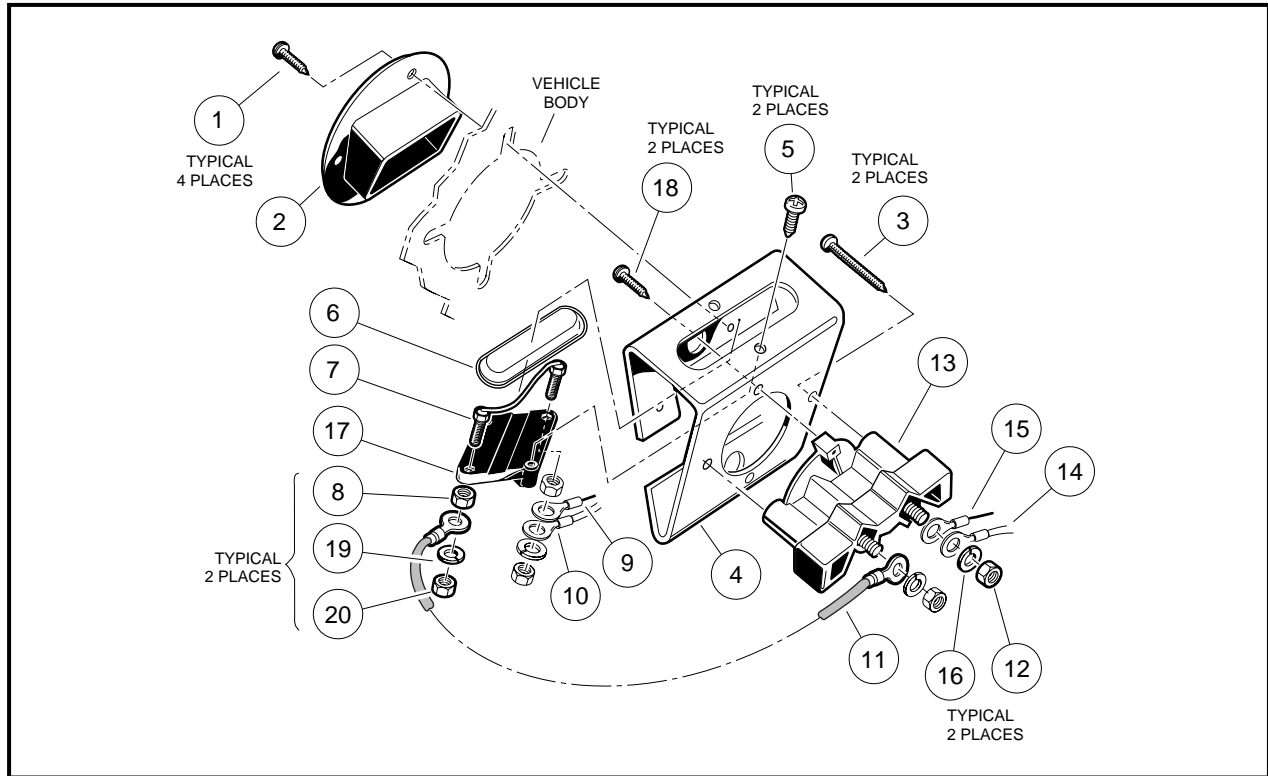

Figure 14-16 Receptacle
1. Disconnect the small black wire (15) and the white wire (14) (to the negative battery post) from the negative terminal of the receptacle (**Figure 14-16, Page 14-16**).
2. Disconnect the red wire (11) (to the fuse link) from the positive terminal of the receptacle and remove the four screws (1) from the bezel (2) (**Figure 14-16, Page 14-16**). See following **WARNING**.
3. Remove screws (3 and 18) attaching receptacle to the fuse link bracket (4) (**Figure 14-16, Page 14-16**).
1. Install the screws (3 and 18) which attach the receptacle (13) to the fuse link bracket (4) (**Figure 14-16, Page 14-16**). Tighten the screws to 20 in.lb (2.2 N-m).
2. Install red wire of fuse link to positive (+) terminal of receptacle (the positive (+) and negative (-) terminals are labeled on face of receptacle) (**Figure 14-16, Page 14-16**). Tighten nut to 23 in.lb (2.6 N-m).
3. Install the small black wire (from wiper switch) and the white wire (from negative battery post) on the negative (-) terminal of the receptacle (**Figure 14-16, Page 14-16**). Tighten nut to 23 in.lb (2.6 N-m).
4. Position bezel (2) and fuse link bracket (4) and install the four mounting screws (1) through the bezel and into the fuse link bracket (**Figure 14-16, Page 14-16**). Tighten the screws to 20 in.lb (2.2 N-m).
If the receptacle fuse link has failed, the vehicle cannot be charged until the fuse has been replaced. The fuse link (7) is located on the fuse link bracket (4) in the battery compartment (rear portion of the charger receptacle) (**Figure 14-16, Page 14-16**). See also **Figure 14-4, Page 14-3**.
1. Remove the two screws (5) and then the lens (6) (**Figure 14-16, Page 14-16**).
2. Remove the outer nuts (20), lockwashers (19), and wires (9, 10, and 11) (**Figure 14-16, Page 14-16**).
3. Remove the remaining nuts (8) (**Figure 14-16, Page 14-16**).
4. Remove the fuse link (7) from the base (17) (**Figure 14-16, Page 14-16**).
1. Install a new fuse link (7) (Club Car Part No. 1014516) into the base (17) (**Figure 14-16, Page 14-16**).
2. Install nuts (8) which attach fuse link to base and tighten to 18 in.lb (2.0 N-m) (**Figure 14-16, Page 14-16**).
3. Connect the red wire (9) (from the forward and reverse switch) and the orange wire (10) (from the reverse buzzer) to the passenger side of the fuse assembly and install the lock washer (19) and outer nut (20). Tighten the nut to 23 in.lb (2.5 N-m) (**Figure 14-16, Page 14-16**). **See also Figure 14-4, Page 14-3.**
4. Connect the red wire (11) (from the charger receptacle) to the driver's side of the fuse assembly and install the lock washer (19) and nut (20). Tighten the nut to 23 in.lb (2.5 N-m).
5. Install fuse link assembly and cover (6). Tighten screws (5) to 20 in.lb (2.2 N-m) (**Figure 14-16, Page 14-16**).